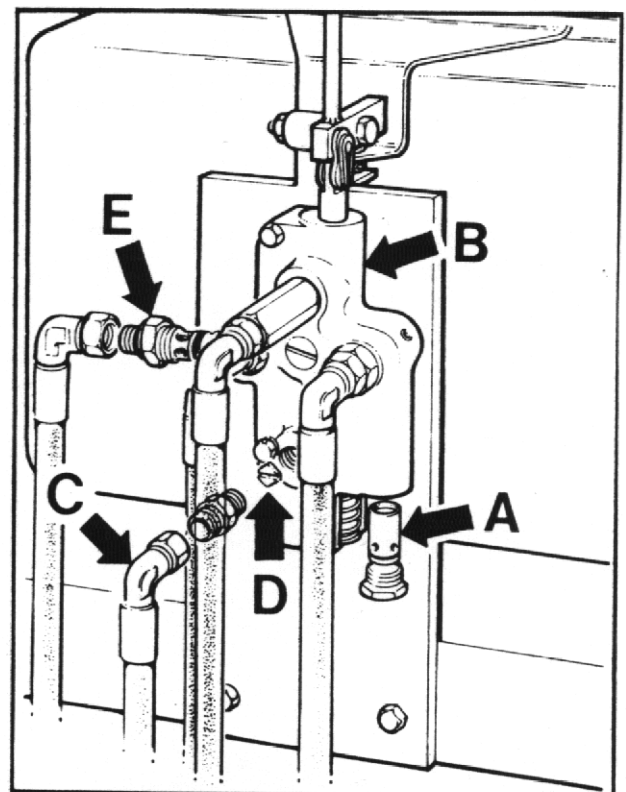

FIG.10
4. Remove relief valve cartridge (A) (hexagon head) from the bottom of the control valve (B) (See Fig. 10), and replace with new one.
5. Remove hose adaptor (C) from control valve (See Fig. 10) remove hexagonal orifice plate (D) and wash in white spirit. Dry using moisture-free compressed air. DO NOT poke wire etc. into the orifice. Re-fit plate and hose adaptor with slot of orifice plate facing outwards.
6. Remove relief valve cartridge (A) (hexagon head) from the bottom of the control valve (B) (See Fig. 10), and replace with new one.
7. Replace flow control valve (E) (See Fig. 10).